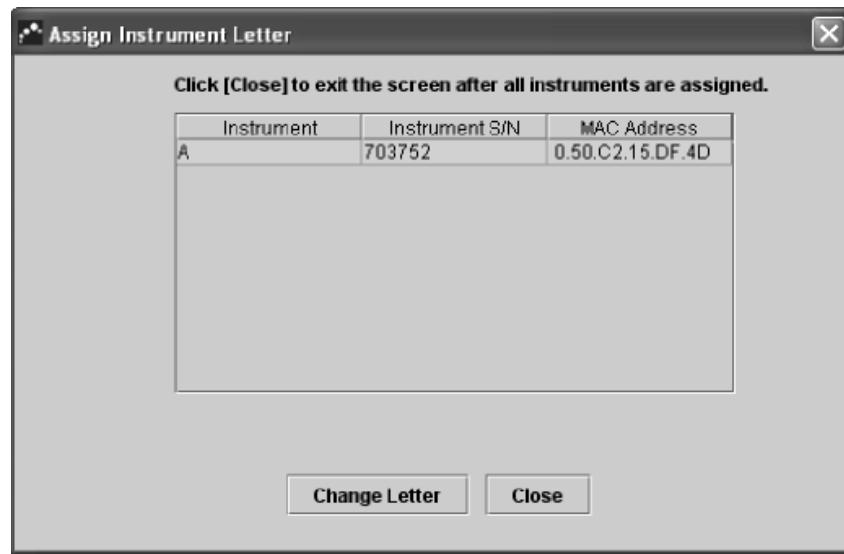

Figure 2-13. Assign Instrument Letter dialog box
1. In the GeneXpert Dx System window, click **Setup** in the menu bar, and then select **Assign Instrument Letter**. The Assign Instrument Letter dialog box appears (Figure 2-13).